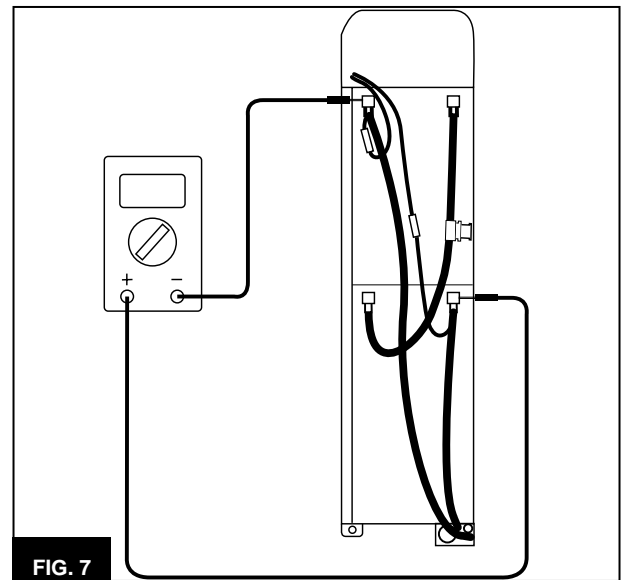

FIG. 7
2. Connect a voltmeter's positive (+) test probe to the positive (+) battery terminal, and connect the voltmeter's negative (-) test probe to the battery negative terminal as shown in **Figure 7**. Note the reading on the voltmeter.
3. Connect a voltmeter's positive (+) test probe to the positive (+) battery terminal, and connect the voltmeter's negative (-) test probe to the battery negative terminal as shown in **Figure 7**.
4. Connect a voltmeter's positive (+) test probe to the positive (+) battery terminal, and connect the voltmeter's negative (-) test probe to the battery negative terminal as shown in **Figure 7**.